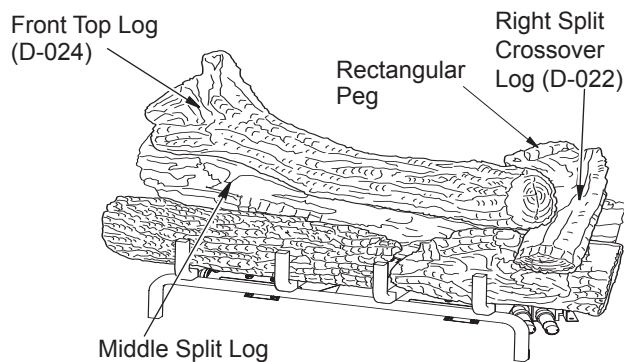

Figure 23 - Installing Front Top Log
- Find the front top log (D-024). See Figure 23. The left end of this log has a square hole that fits over a square peg that is on the top of the middle split log. The right end of this log rests behind the knot on the top of the front right log.